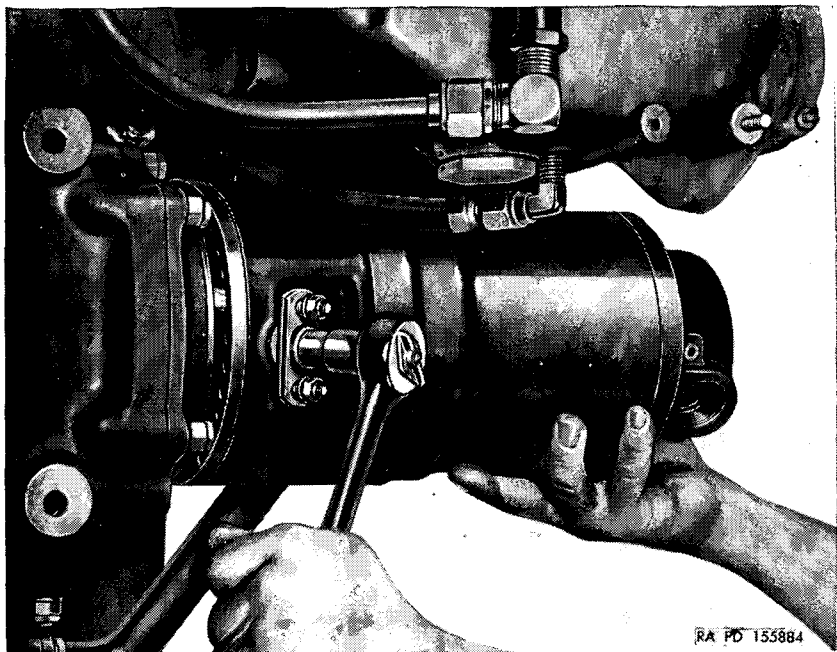

Figure 14. Removing starter.
- (1) *Fuel filter.* Disconnect and remove fuel-pump-to-fuel-filter line. Remove nuts holding fuel filter bracket to accessory case. Lift off filter and bracket.
- (2) *Primer filter.* Disconnect primer lines to No. 1 and No. 3 cylinders. Remove bolts holding the primer bracket to the accessory case. Lift off filter and bracket.
- (3) *Oil filter.* Remove the oil filter assembly from its housing in the accessory case by removing the jam nuts, plain nuts, and plain washers. Pull the filter from the housing by the handle provided for this purpose. Discard gasket.
d. Starter. Depress locking plate with wrench and loosen worm-gear bolt. Remove starter from its drive assembly (fig. 14).